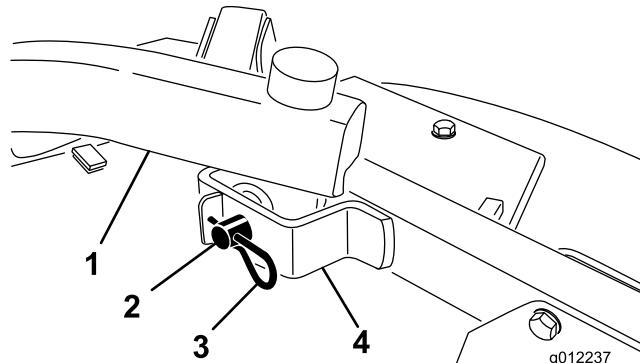

Figure 26
4. Remove the hair pin coppers and clevis pins securing the lift arms to the castor arm brackets (Figure 26).